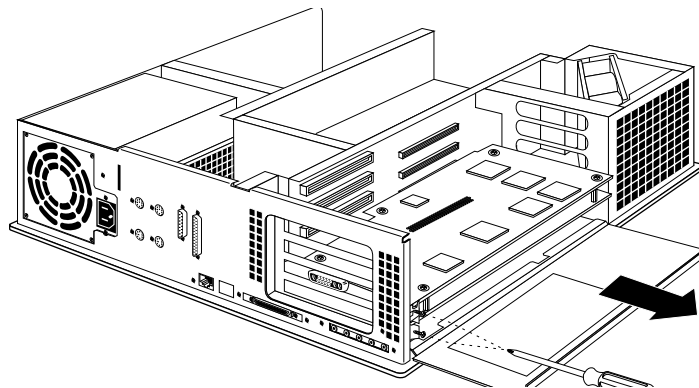

Figure 2-10 Removing screws from XZ graphics metal extension
4. Remove the screws that connect the board to the system slots as shown in Figure 2-10.